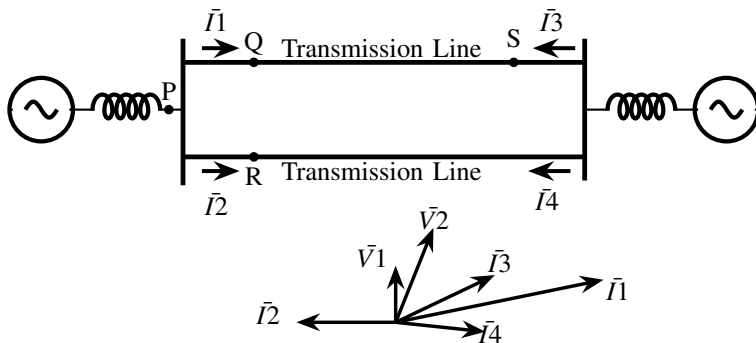

Fig. 2.1
- 2) A sustained three-phase fault occurs in the power system shown in the figure 2.1. The current and voltage phasors during the fault (on a common reference), after the natural transients have died down, are also shown. Where is the fault located?